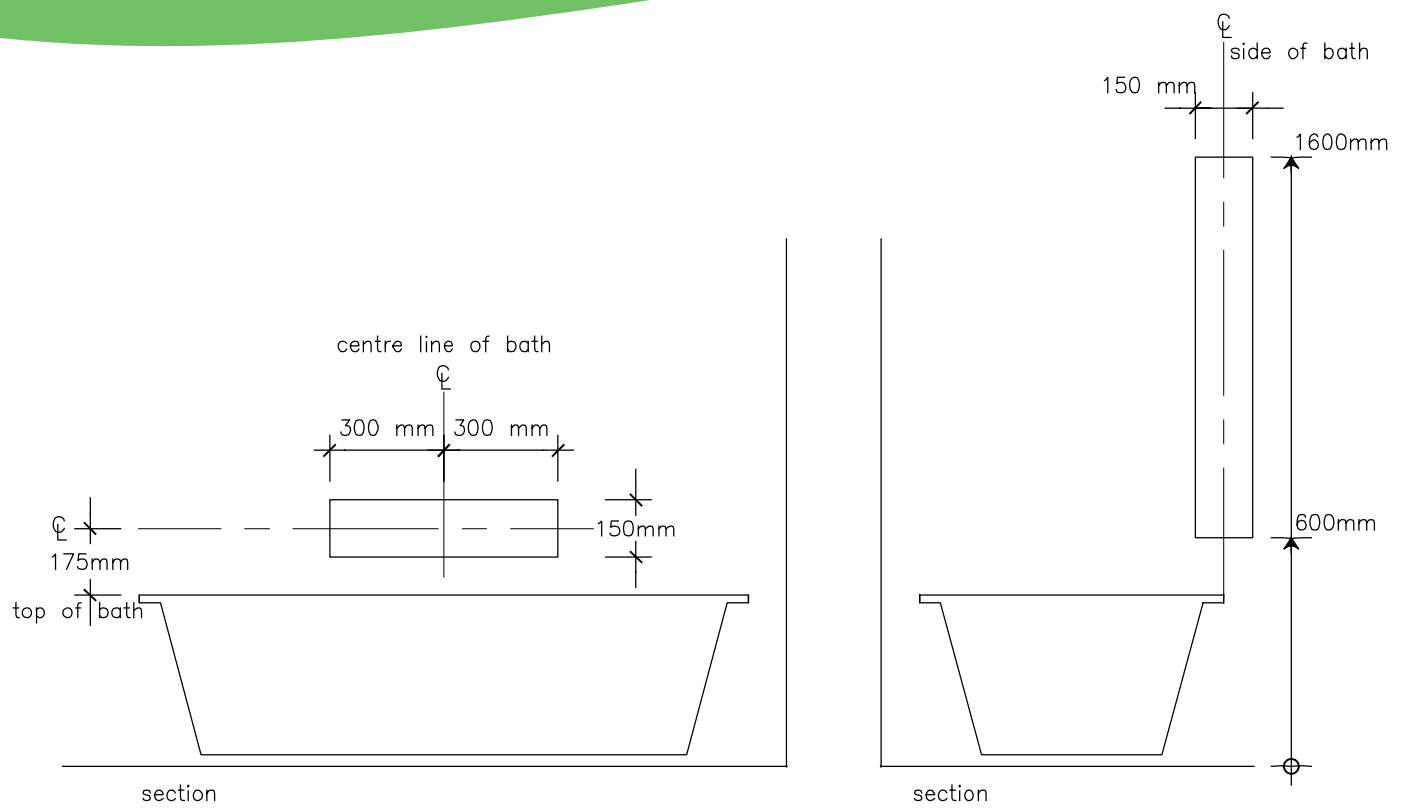

Figure 7(a) Bath – Location of reinforcement
- i. noggings with a thickness of at least 25mm in accordance with Figure 7(a); or
- ii. sheeting with a thickness of at least 12mm in accordance with Figure 7(b).